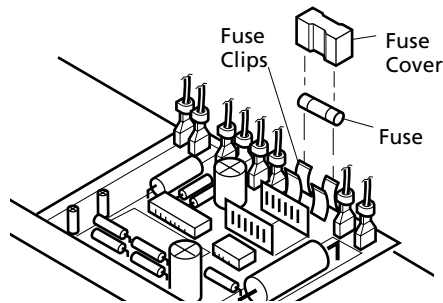

Figure 19 - Replacing Fuse
2. Remove side cover screws (4) using 5/16" nut-driver to expose ignition control assembly.
3. Remove fuse cover (See Figure 19).